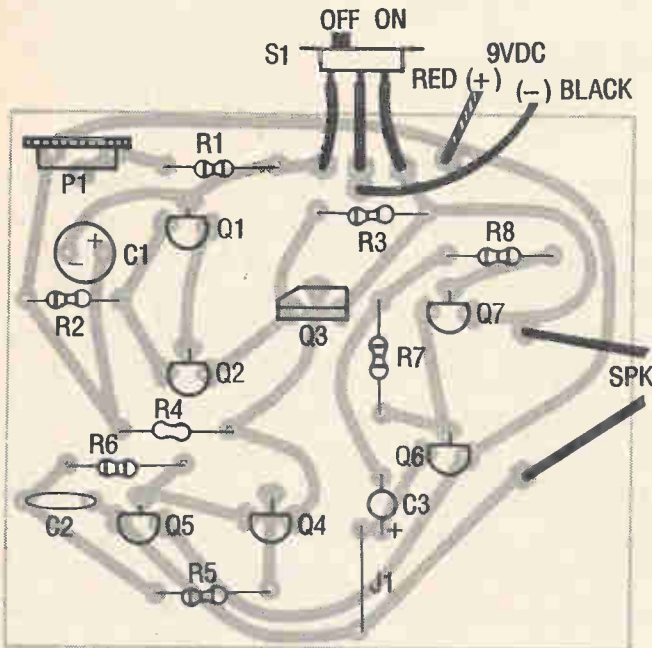
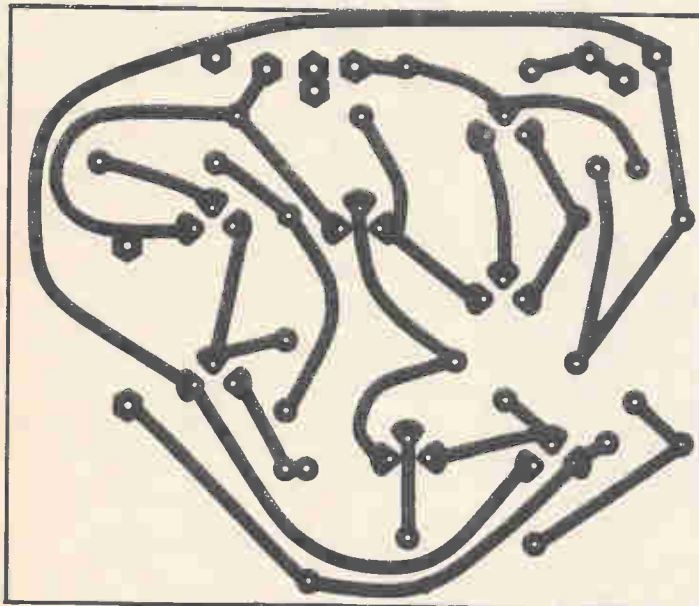
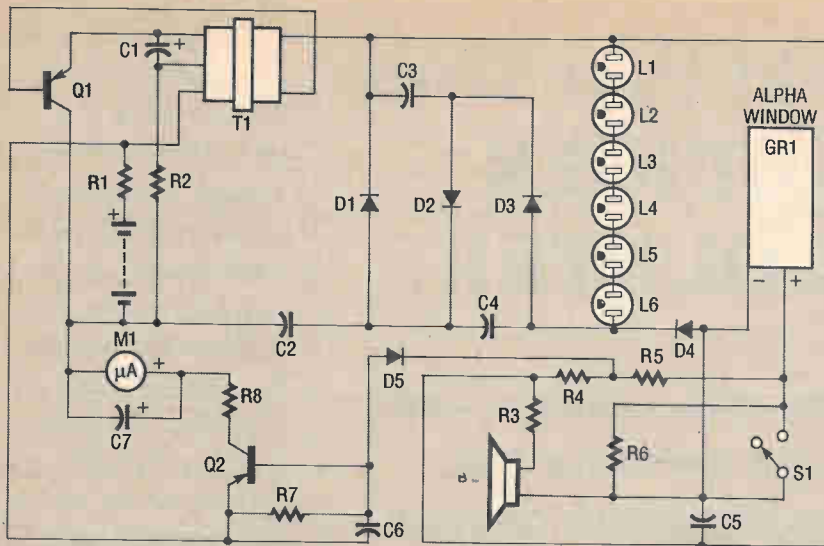

Figure 2. Follow this parts-placement diagram for proper assembly. Be sure to install all polarized components correctly!
Figure 3. The foil pattern is provided here, full sized, for those readers who wish to etch their own circuit boards.
Figure 1. The schematic of the Geiger Counter shows a two-transistor circuit with an alpha-window Geiger Mueller (GM) tube.
the schematic (Figure 1), the parts-placement diagram (Figure 2), and the Parts List. Be sure to use only 60/40 rosin-core solder. You can etch your own board using the foil pattern in Figure 3, or buy a complete kit that includes the board as indicated in the Parts List.
As illustrated in the schematic (Figure 1) the Geiger Counter with Meter uses a two-transistor circuit and a sensitive alpha-window Geiger Mueller (GM) tube to detect radiation. The
1. Carefully follow the parts-placement diagram shown in Figure 2, and refer to the Parts List and the schematic as needed. Use only 60/40 rosin-core solder. **Do not remove**